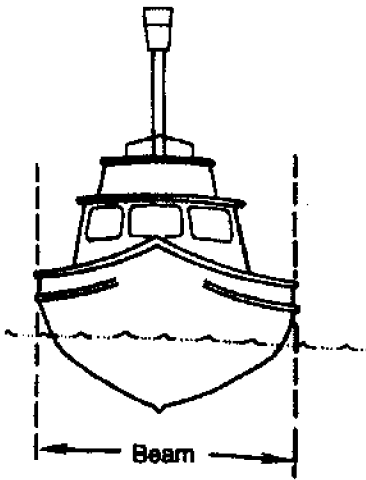

Figure 3
3. the maximum beam of your vessel (figure 3).